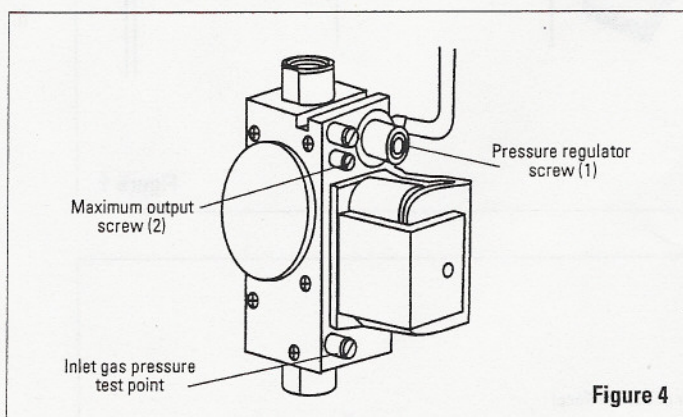

Figure 4
- g. Using an allen key, turn the pressure regulator screw (1), see Fig. 4 clockwise to increase CO2 and anticlockwise to reduce CO2 until the correct value given in table 2 is obtained.
- i. At the maximum outputs check that the CO2 content of the exhaust flue gas is that stated in table 2. If not, adjust the maximum output screw (2) on the gas valve, see Fig. 4 using a suitable screwdriver until the CO2 content is correct.\* Then recheck the CO2 content when the 'CH CAP' potentiometer is at minimum output. Repeat the previous procedures 'e to i' until the correct values are obtained.